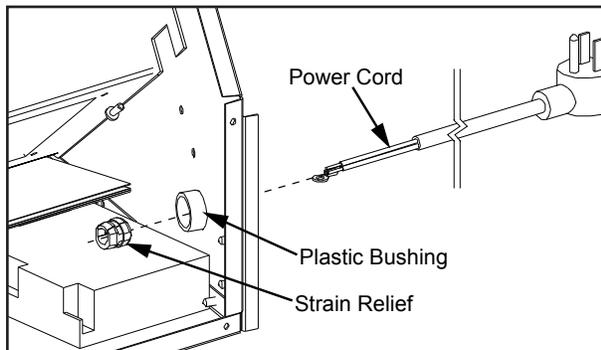
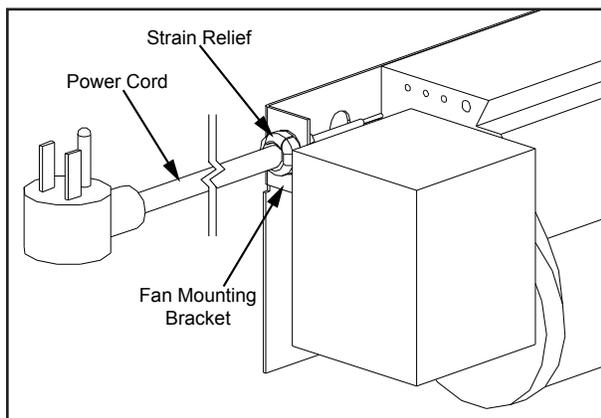

Figure 48: Installing Power Cord.
Figure 49: Installing Power Cord & Strain Relief.
2. Insert the power cord through the plastic bushing in the left cabinet side (refer to Figure 48), place the strain around the cord approximately 3" (76 mm) from the end, and insert into the fan mounting bracket with pliers (refer to Figure 49).